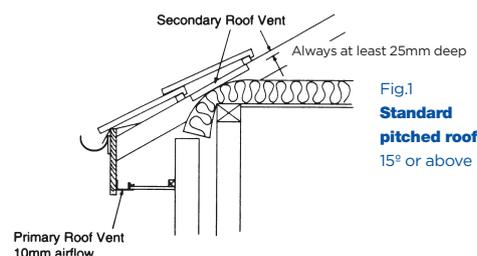

Fig.1
- With a standard pitched roof where the pitch of the roof is 15 degrees or greater and the roof space is an attic or loft a free airflow is required which is equivalent to a continuous 10mm opening (10,000² mm per metre run). See fig.1
- With a standard pitched roof where the pitch of the roof is 15 degrees or greater and the roof space is an attic or loft a ventilation channel at least 25mm deep must be maintained between the roof insulation and the underside of the roof covering. See fig.1